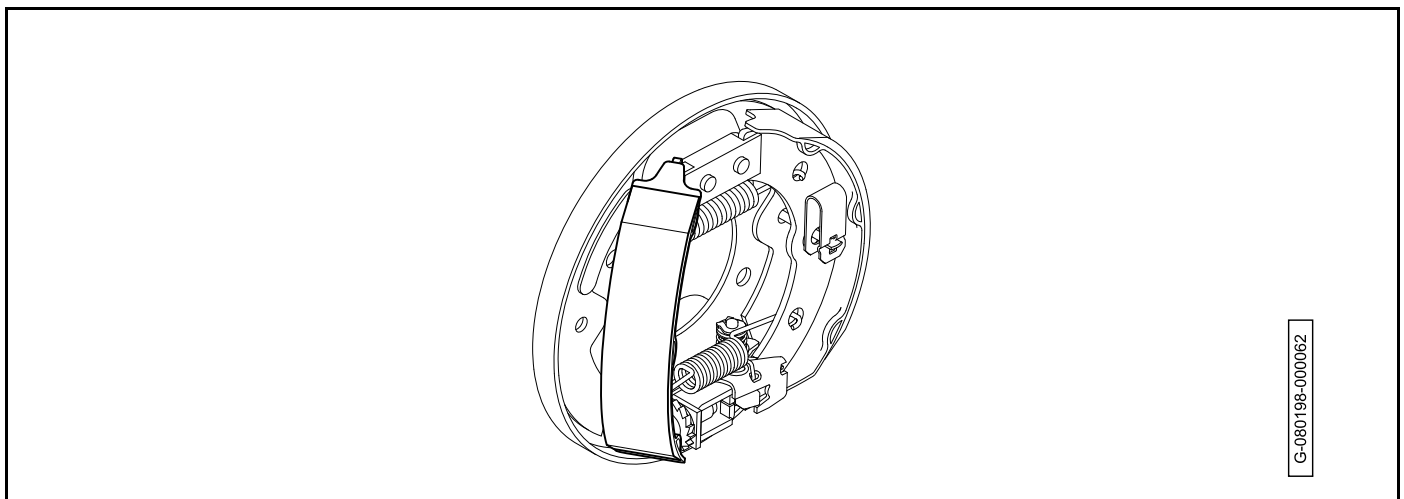

Figure 6-4
15. Hold both brake shoes and pull them, together with the springs, out of the brake assembly (Figure 6-4).